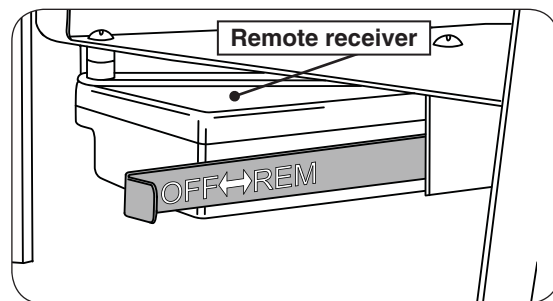

Fig. 19-1
1. Locate the OFF/REMOTE slide actuator on the left rear of the burner. Slide the actuator to the left / **OFF** position. See Fig. 19-1.